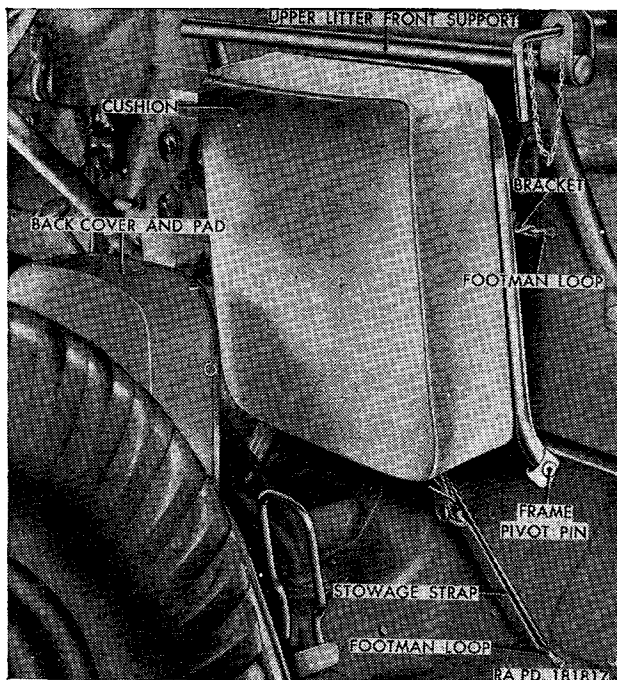

Figure 23. Front passenger seat cushion (M170)—in stowage position
the cushion (fig. 23). Lift the cushion up until the front passenger seat frame pivot pins are clear of the brackets on the windshield frame and remove cushion from windshield. Position the cushion in the driver's compartment so the frame pivot pins (fig. 22) are over the seat hinge pivots on the floor pan. Aline the flat sides of the pins with the flat faces of the pivots and insert the pins into the pivots. Tilt the seat cushion rearward until the frame rests on the floor pan.
- (2) Position the front passenger seat cushion (fig. 23) against the instrument panel so the pivot pins point down, and insert the two brackets on the frame of the seat into the footman loops on the instrument panel. Fasten the passenger seat stowage strap, secured to the cushion, to the footman loop on the floor pan. Fasten the passenger seat stowage strap, secured to the footman loop on the instrument panel, to the frame of the seat cushion.